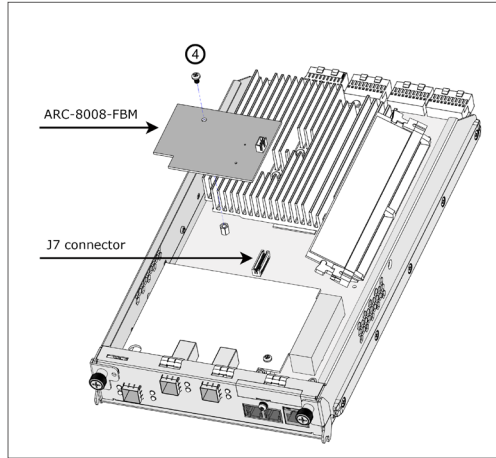

Figure C-4, Securing ARC-8008-FB on Controller
2. With the RAID controller on a flat, clean, static-free surface, hold the ARC-8008-FB control board so that the bottom side is facing upward, and the **J1** board-to-board connector lines up with the **J7** FB connector on the RAID controller. Carefully press the ARC-8008-FB onto the RAID controller, so that the two connectors are firmly joined, as shown in Figure C-4.